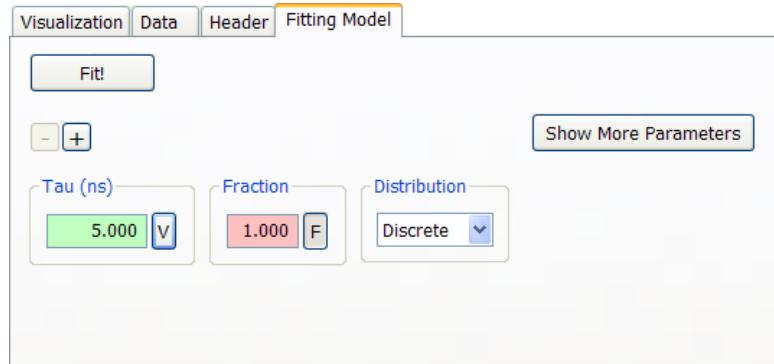

Figure 20.1 Select lifetime fitting in Vinci Analysis
Select <Fitting> on the top row of the software and then <Lifetimes>; the window of Figure 20.1 is displayed.
- It is a good approach to start with the simplest model, in this case a single exponential decay. The table looks like the one displayed in Figure 20.1 above. The value of the lifetime is variable (it needs to be determined); the default value (5 ns) is a seed value. The fractional distribution is set to <one> and <fixed> as we have in this model one decay only. Click on the <Fit!> button and look at the value of the χ^2 -function as well as to the general trend of the residuals.